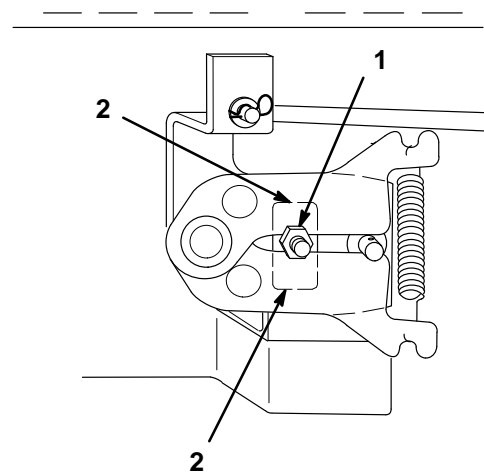

Figure 7
3. Loosen locknut securing adjustment (Fig. 7).
4. Move adjustment stud up or down until creep is minimized (Fig. 7). There may still be some wheel rotation with wheels off the ground.
5. Tighten the locknut (Fig. 7). Move the traction control pedal forward and reverse and allow it to center. Verify that there is no creep with the wheels on the ground.
After adjusting the hydro neutral position it is necessary to check the traction control pedal. Shut the engine off and check the following. While pressing the control pedal full forward and full reverse the pedal must not contact the footrest pad before hitting the stop(s) at the transaxle (Fig. 7).
1. If contact is made with the foot pad, before hitting stop(s) on transaxle (Fig. 7), in either forward or reverse directions, adjustment is required.